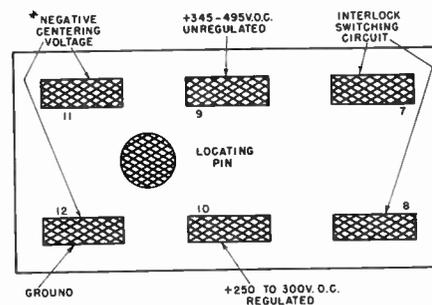

Figure 6—D-C Output Receptacle Connections
3. D-C OUTPUT CONNECTIONS (Figure 6).
D-C power output is obtained from the terminals of the d-c plug and receptacle J2 on the rear of the unit. Referring to Figure 6 unregulated d-c voltage is supplied at terminal 9. Regulated d-c voltage in the range from 250 to 300 volts, at 50 to 400 milliamperes, is supplied at terminal 10. If the unit is to supply power to television monitor units, horizontal centering voltage can be obtained by removing the jumper across C-6 and connecting a low resistance potentiometer between terminals